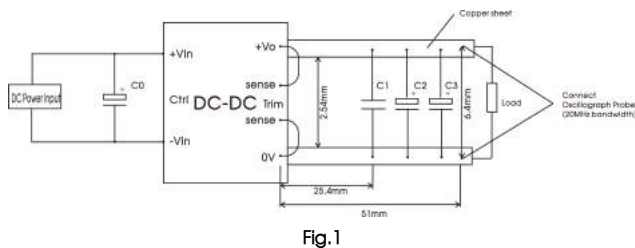

Fig. 1
Note: ①For ripple and noise measuring method, please refer to Fig.1
All the DC-DC converters of this series are tested before delivery using the recommended circuit shown in Fig. 1.